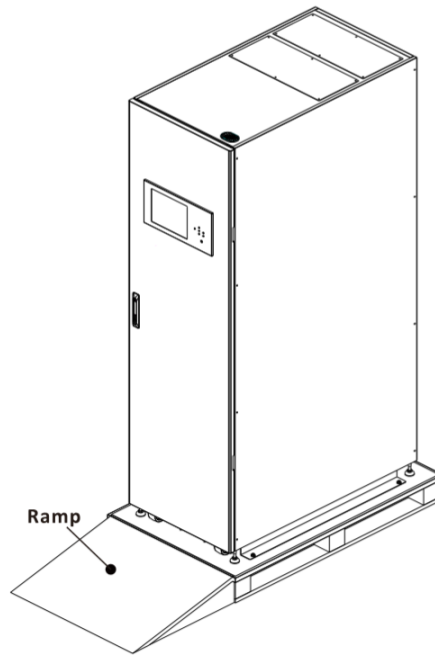

Figure 2-3
- Put a ramp in the front of the cabinet. Refer to Figure 2-3.